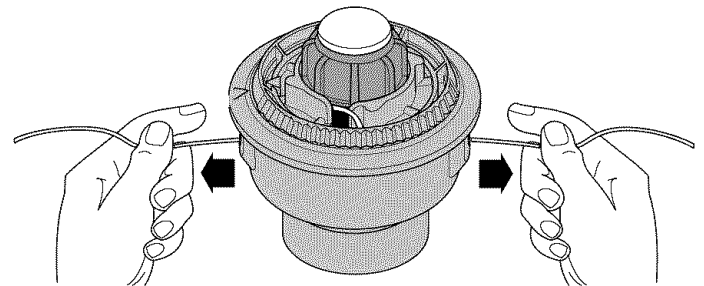

Fig. 19
7. If winding the line becomes difficult or the line jams, pull the ends of the line away from the head and continue winding the reel counterclockwise (Fig. 19).
1. Pull the ends of the line firmly away from the head to release the reel (Fig. 19). If this procedure does not release the reel, follow the "Cleaning the RapidRewind" instructions below.